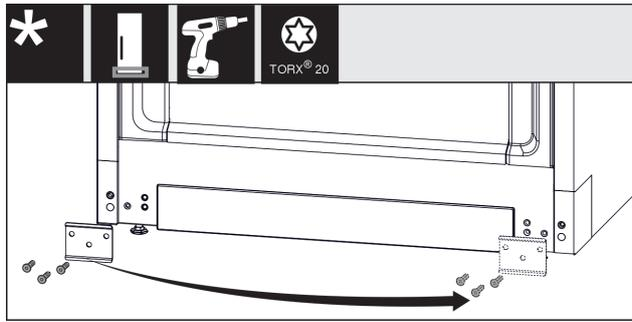

Fig. 14
- Unscrew the metal plate, move it to the other side and screw it on again. Fig. 14 (1)